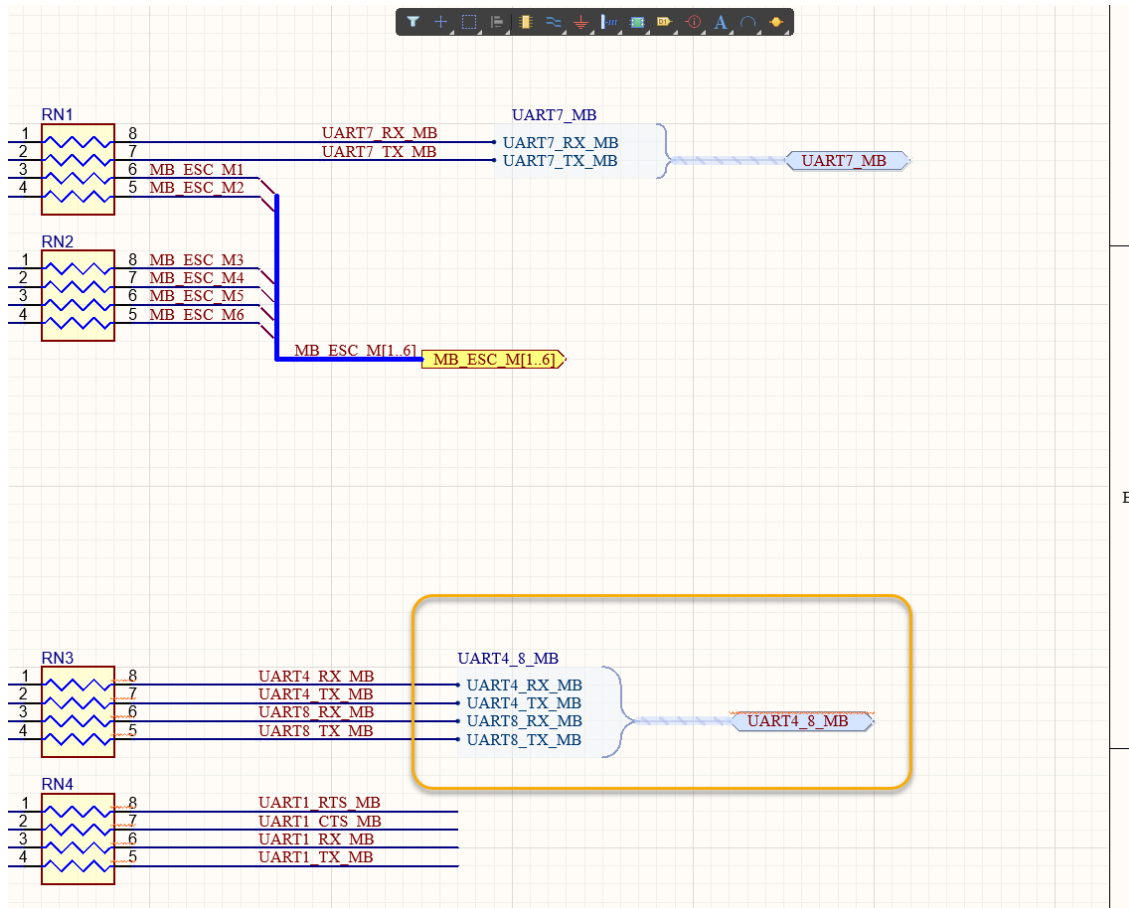

Figure 14. Place Predefined Harness connector `UART4_8_MB`
34. Place the predefined Harness Connector `UART4_8_MB` on the wires on the right-side of component `RN3`, as shown in Figure 14.